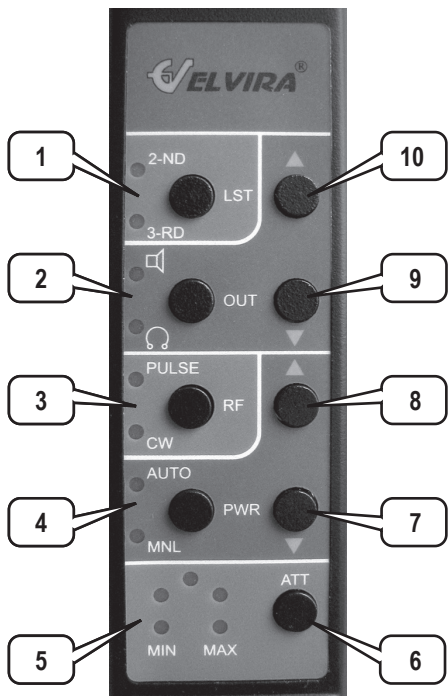

Fig. 4
5.3. The control panel is used to control operation of the detector. It consists of the case combined with a battery and fixed on the arm. The control board, buttons for operation modes control and display LEDs are placed in the package. The control buttons are divided into two groups by their function: «AUDIO» placed in the upper half of the panel and «POWER RF» in the lower half. The control panel is shown in Fig.4
7.4. If a response signal is to be tapped by phones, switch over acoustic indication to the head phones mode pressing the corresponding button on the control panel (see 2 in Fig.4) and turning wireless phones on (according to their User Manual).